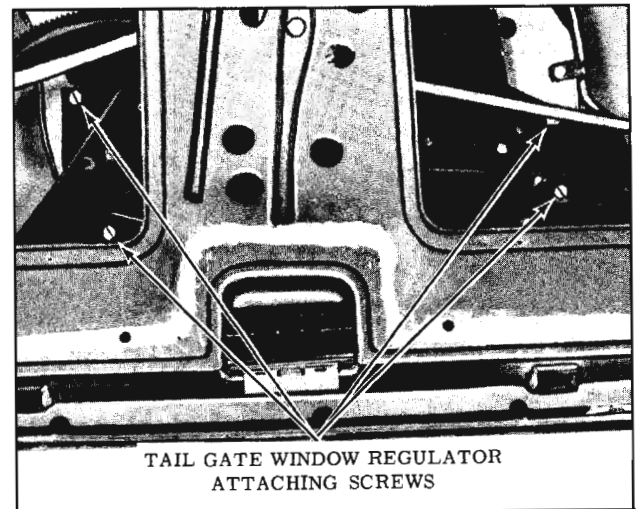

Fig. 16-193 Regulator Removal
2. To correct a condition where the glass is "cocked" in the glass run channels, loosen window regulator attaching screws, rotate regulator assembly clockwise or counter-clockwise, as required, to eliminate "cocked" condition. (Fig. 16-193)
5. Remove regulator attaching screws. (Fig. 16-193) Remove regulator assembly through access hole.